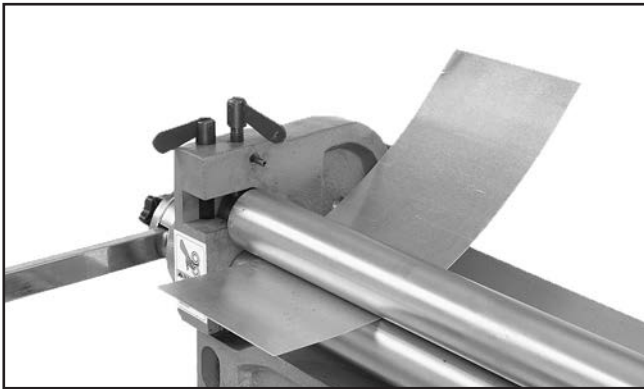
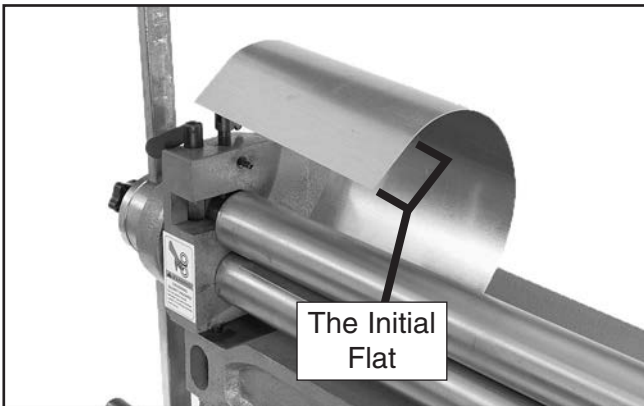

Figure 20. First rolling operation.
Figure 21. An initial flat.
7. Rotate the work lever to feed the sheet metal through the rollers (**Figure 20**). Often after the first feed is made, an initial flat is created (**Figure 21**) at the leading tip of the workpiece.